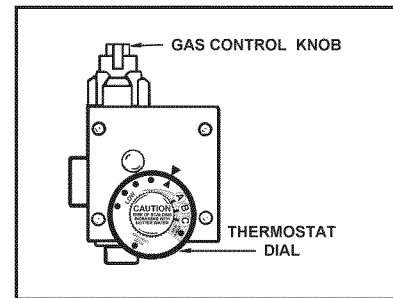

FIGURE 22.
**HOTTER WATER CAN SCALD:** Water heaters are intended to produce hot water. Water heated to a temperature which will satisfy space heating, clothes washing, dish washing, and other sanitizing needs can scald and permanently injure you upon contact. Some people are more likely to be permanently injured by hot water than others. These include the elderly, children, the infirm, or physically/mentally handicapped. If anyone using hot water in your home fits into one of these groups or if there is a local code or state law requiring a certain temperature water at the hot water tap, then you must take special precautions. In addition to using the lowest possible temperature setting that satisfies your hot water needs, a means such as a mixing valve, should be used at the hot water taps used by these people or at the water heater. Mixing valves are available at plumbing supply or hardware stores. Follow manufacturer's instructions for installation of the valves. Before changing the factory setting on the thermostat, see Figures 22 and 23.